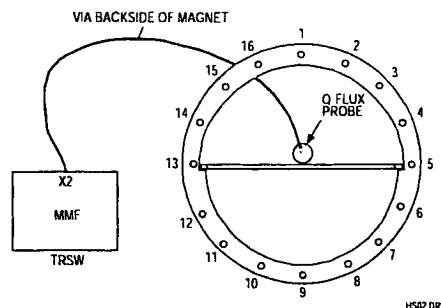

Figure 1 Measurement set-up (Front view)
6. Connect a 50 ohm coaxial cable between tune A signal at connector MMFX2 and the quadrature flux probe. See Figure 1.